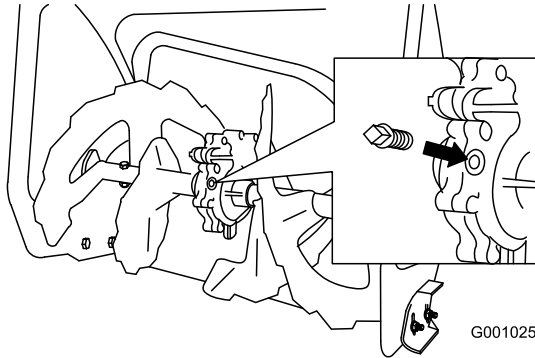

Figure 51
2. Clean the area around the pipe plug (Figure 51).